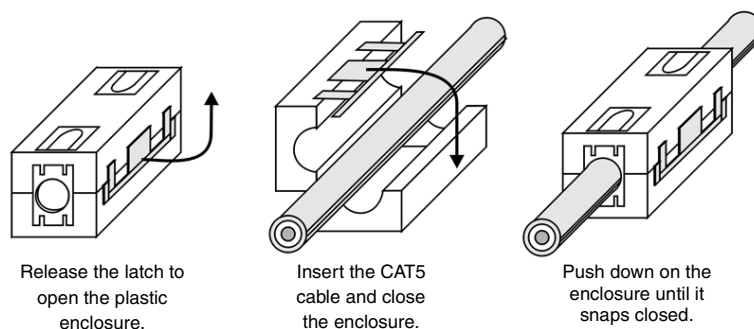

FIG. 10 Installing the CAT5 Suppression Ferrites
Before connecting the RJ-45 cables to the Modero Touch Panel, install the necessary number of CAT5 Suppression Ferrites (FIG. 10) to the RJ-45 Audio/Video cable. These ferrites come as part of the Installation Kits mentioned in the previous Specification table (page 28).
1. The CAT5 Suppression Ferrite is housed within a plastic enclosure (shown in FIG. 10) with a latch release on one side. Pull to release the latch and open the enclosure.